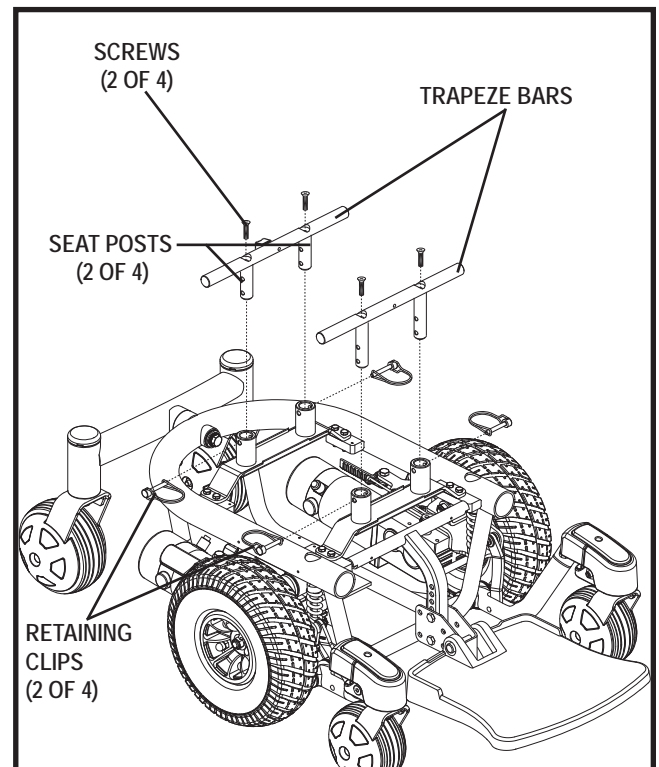

Figure 12. Seat Height Adjustment - Trapeze Bars
7. Loosen the screws that attach the trapeze bars to the seat posts. **See figure 12.**
8. Remove the retaining clips that secure the seat posts to the power base. **See figure 12.**